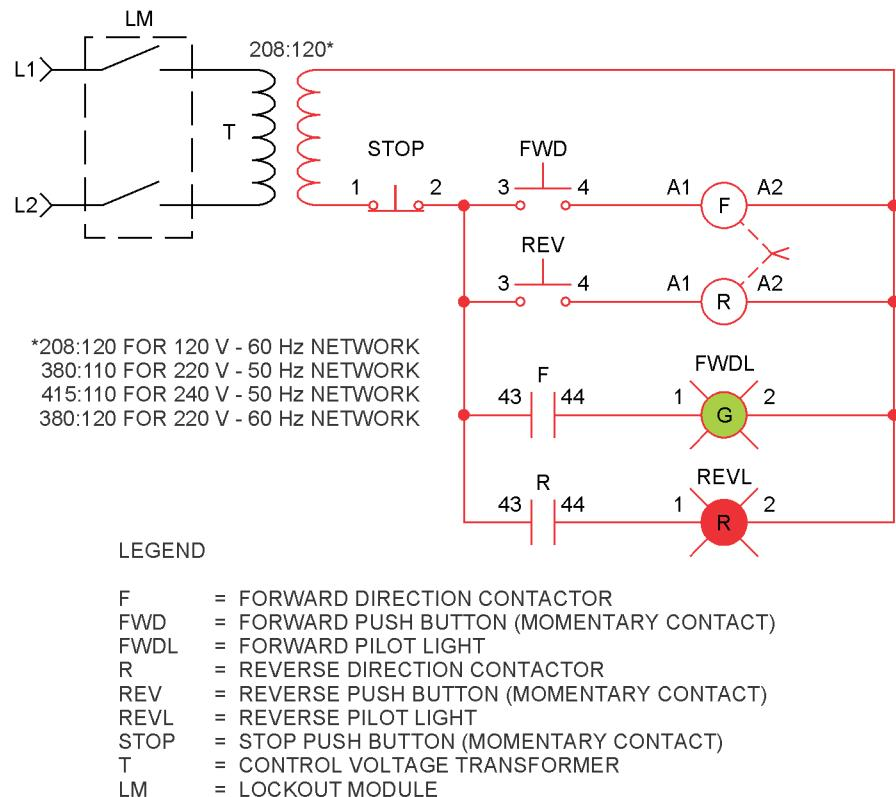

Figure 3-11. Dual contactors testing circuit.
Refer to the circuit of Figure 3-11. A mechanical interlock (in dashed lines) is located between the two contactor coils. When one of the two contactors is energized, the contacts of the other contactor are mechanically maintained, even if the second coil is energized. This method provides a level of security against short-circuits resulting from stuck contactors. This explains why mechanical interlocks are so common in the industry.
- 16.** Connect the circuit shown in Figure 3-11.